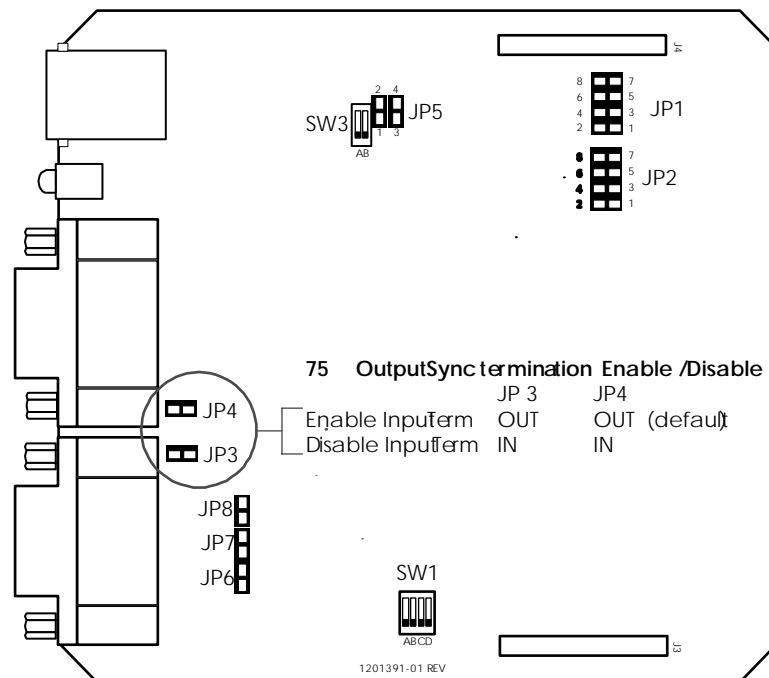

Figure 2-3. Jumper Settings for Output Sync Termination
- Referring to **(Figure 2-3)** place jumpers into locations JP3 and JP4.